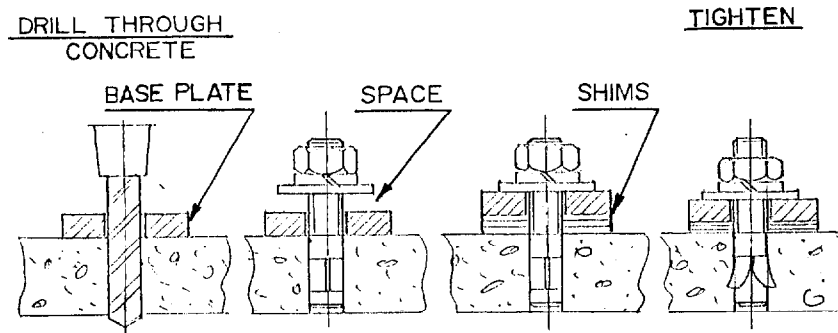

Figure 7: Anchoring
1. Using a rotary hammer drill and a ½" concrete drill bit, drill through the floor in the six (6) anchor bolt location holes positions on each of the base frames. Make sure that the ½" concrete drill is in good condition. Refer to **Figure 7**.